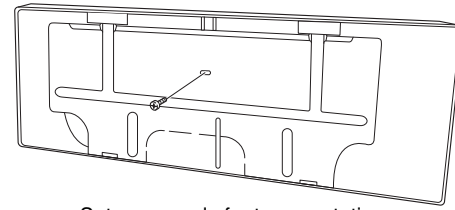

Fig. 6
- (1) Remove and discard the set screw on the rear panel except SAP-KRV96EHDS, SAP-KMRV76EH, SAP-KMRV96EH and SAP-KMRV126EH. (Fig. 6)